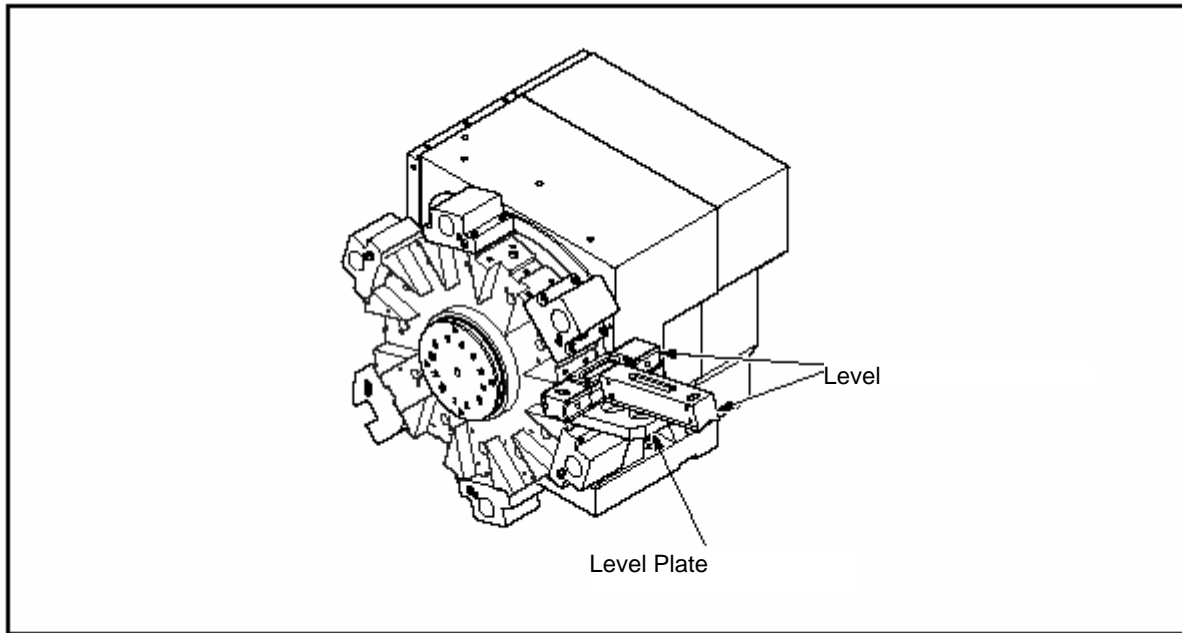

Fig. 4-6 Adjustment of Level
- (1) The levelling method is one of the factors to determine the degree of machine.
- (2) Levelling the machine is the most- basic work and has an influence on the degree of the workpiece and the life of machine itself.
- (3) Perform levelling in the following order.
- b. Attach the level plate to the turret as shown in Fig. 4-6.